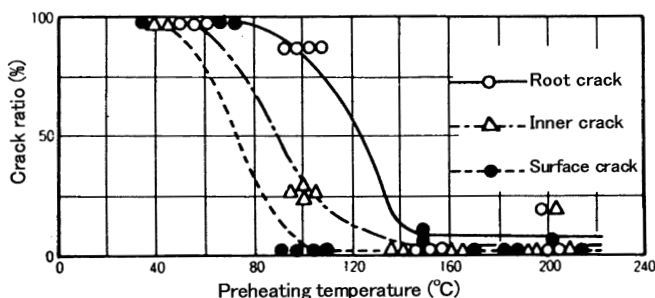

Figure 2. y-groove weld cracking test results of 780MPa high tensile strength steel welds
**Figure 2** shows the preheat temperature dependence on cold cracking in 780MPa high tensile strength steel welds. As the preheat temperature increases the crack ratio decreases.